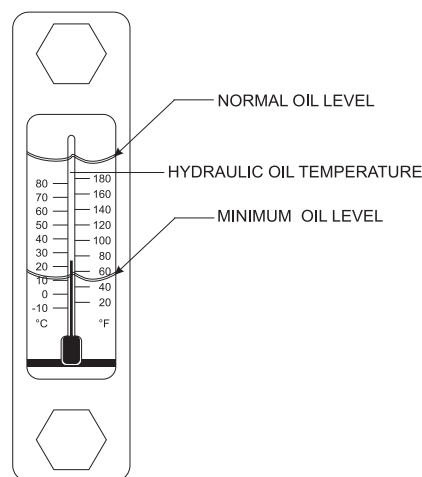

Figure 12. Hydraulic Oil Sight Glass
1. Determine if the hydraulic oil level is low by observing the level of the oil in the **Hydraulic Oil Sight Glass** (Figure 12).